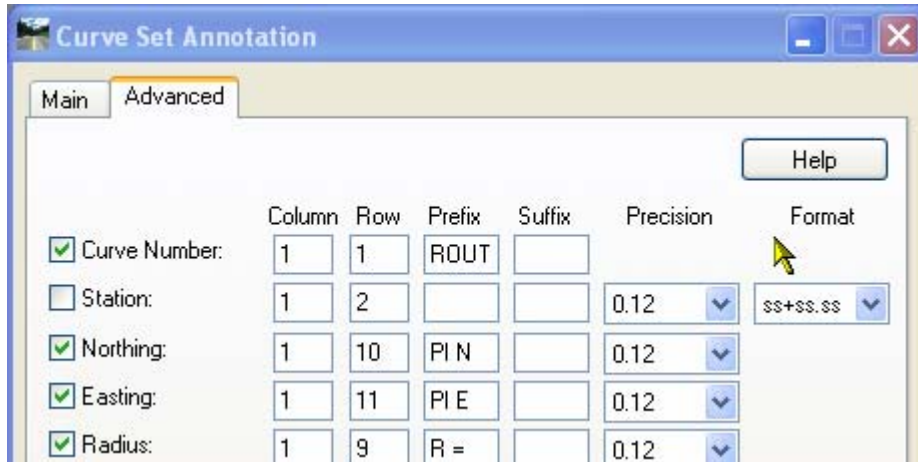

Figure 4-10 InRoads Curve Set Annotation Dialog Box
- C. Select the **Advanced Tab** (Figure 4-10). On the Curve Number line data point in Prefix before the word CURVE and type in the name of your Roadway (eg. Route 123). See figure below.